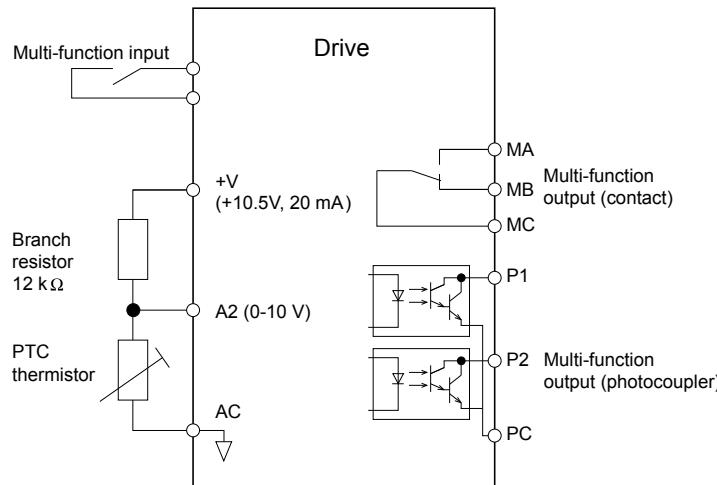

Figure 5.78 Connection of a Motor PTC
**Figure 5.78** shows a PTC connection example for analog input A2. If using analog input A2, make sure to set DIP switch S1 on the terminal board for voltage input when using this function.